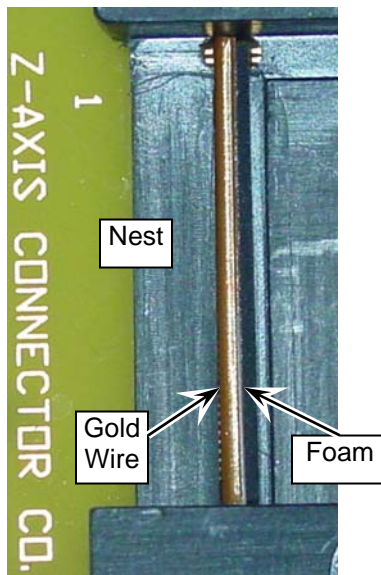

Figure 6
12. Insert a new Z-Axis Elastomeric Connector element into the element slot with the foam side facing the FFC connector and the gold wire side facing the nest. [Figure 6]